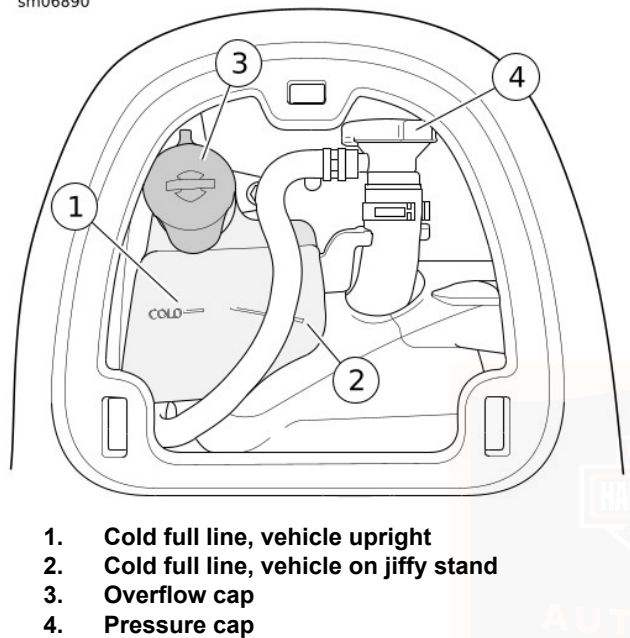

Figure 72. Coolant Level
See Figure 72. The coolant bottle has two lines. Use the angled line (2) when the motorcycle is leaning on the jiffy stand.
2. See Figure 72. Check that coolant level in coolant bottle is at or slightly above the "COLD" line (1).